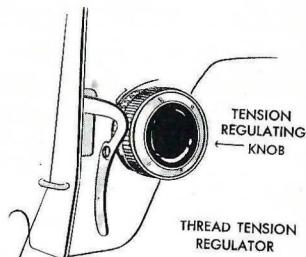

Fig. 9
To correct this condition, make certain that the presser foot is down, then turn Tension Regulating Knob (Fig. 9) *to the left*.
- b. Loosen top tension slightly by setting tension indicator (Figure 9, Page 22) to between zero and #3. This makes possible a long loose stitch that can be easily removed.